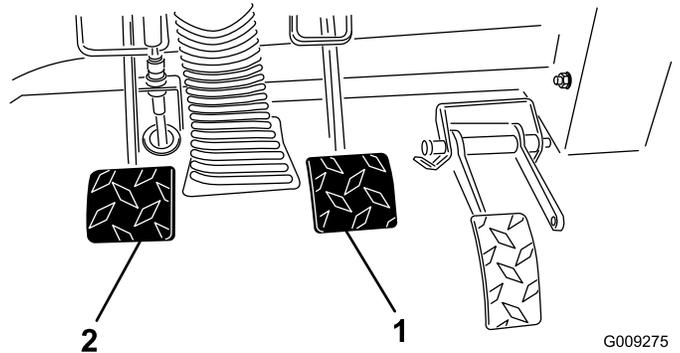

Figure 56
2. Lift up on the brake pedal (Figure 56) until it contacts the frame.